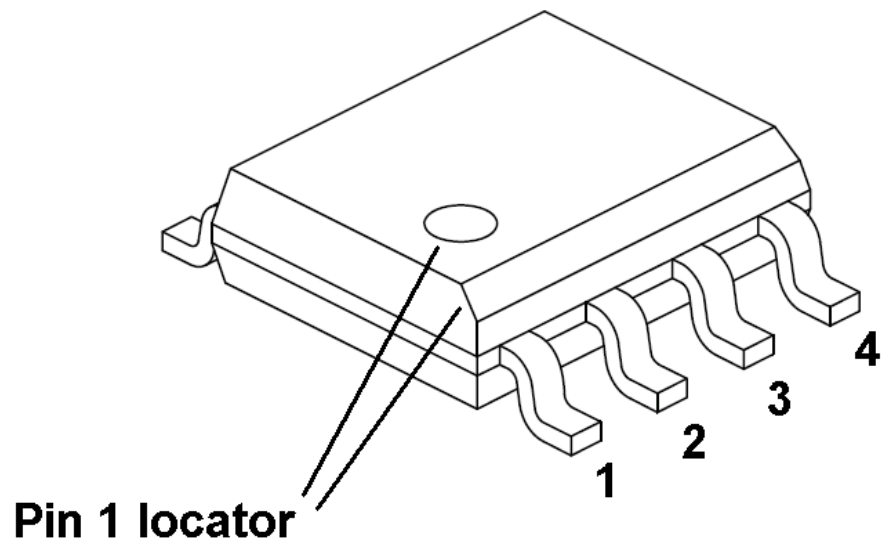

Figure 2 – Locator for Pin 1
- (iv) Position the Penloader over the 8 pin memory device ensuring that the spring probes are making good contact with the legs on the memory device. Where possible, a “Flash device identifier” is specified to help locate the correct 8 pin device on the circuit board. Figure 2 below shows how to locate pin 1 on the 8 pin memory device. It is important that the spring probe identified as “1”, is in contact with Pin 1 on the 8 pin memory device.